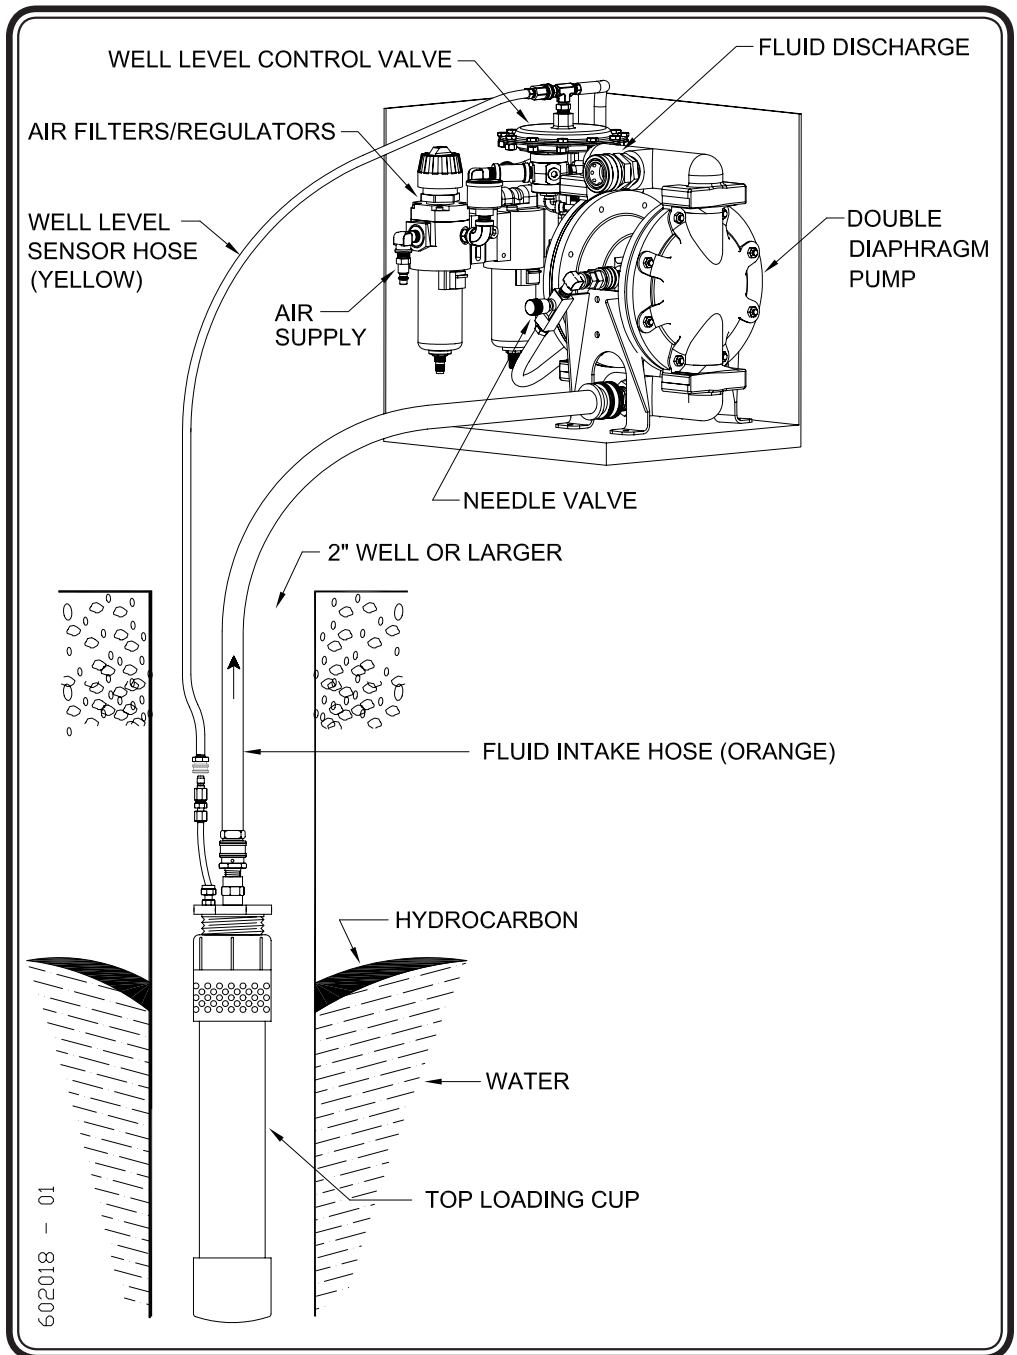

Figure 3 - ADPP System with Top Loading Cup
- The pneumatic sensor circuit has an **air bubbler** located inside the **top loading cup**. (See Figure 3)
- The **top loading cup** placed on the end of the **fluid intake hose** draws in hydrocarbon products. The **well level sensor hose** is attached to the quick connect on the **top loading cup**. (See Figure 3)
- Connect the MALE quick connect on the **well level sensor hose** to the FEMALE quick connect on the top of the pneumatic system. (See Figure 3)
- Connect the FEMALE quick connect on the **well level sensor hose** to the MALE quick connect on the **top loading cup**. (See Figure 3)
- Connect FEMALE quick connect of the **fluid intake hose** to the MALE DDP quick connect. The MALE end of the **intake hose with top loading cup** is positioned in the well or tank at fluid level. (See Figure 3)
- Connect the MALE quick connect of the **fluid discharge hose** to the FEMALE DDP quick connect. The FEMALE end of the **discharge hose** leads to a **fluid discharge point**. (See Figure 3).